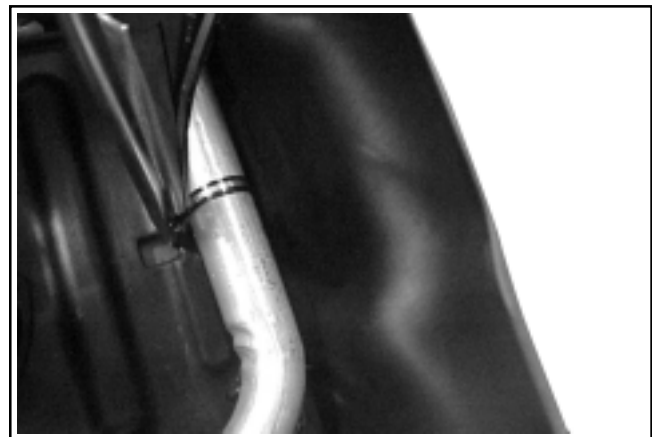

Figure 11-81. Tightening Tie Strap with Pliers.
- Push down on the lower tube/hose assembly and **securely tighten** the metal tie strap around the lower tube/hose assembly using a pliers. Make sure the head of tie strap is below the top of the tube where it will not be contacted by the flywheel. Cut off all excess strap material. See Figure 11-81.